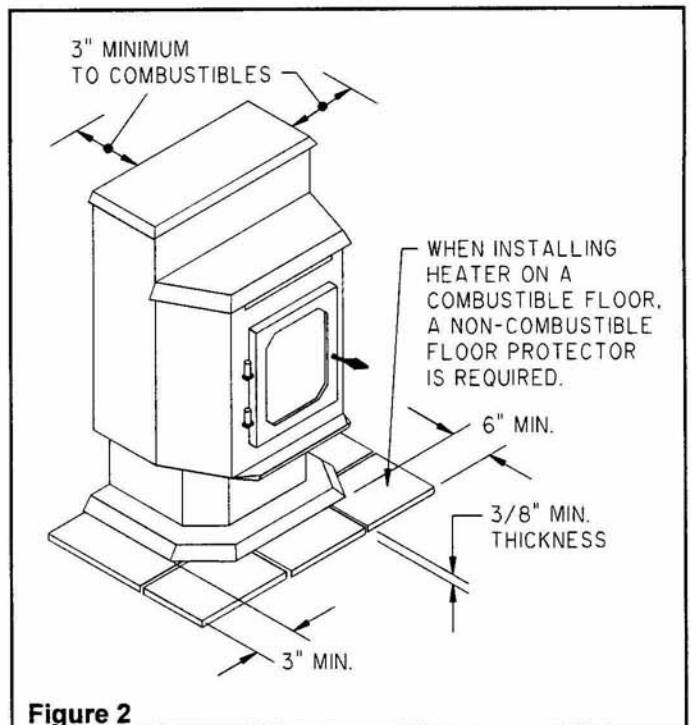

Figure 2
4. A non-combustible hearth pad must be used if installed on a carpet, wood floor or other combustible material (see Figure 2).
- e. Fly-ash can also accumulate in the vent pipe. Inspect exhaust system frequently to maintain free flow of exhaust fumes and fly-ash. The frequency of clean-out depends entirely on the quality of the pellets, so you will have to initially monitor the buildup in the pellet vent pipe. Those installations going into an existing flue must be installed with a tee connector (**Figure 2 & 3**) to allow access to clean the ash from the pellet vent pipe.